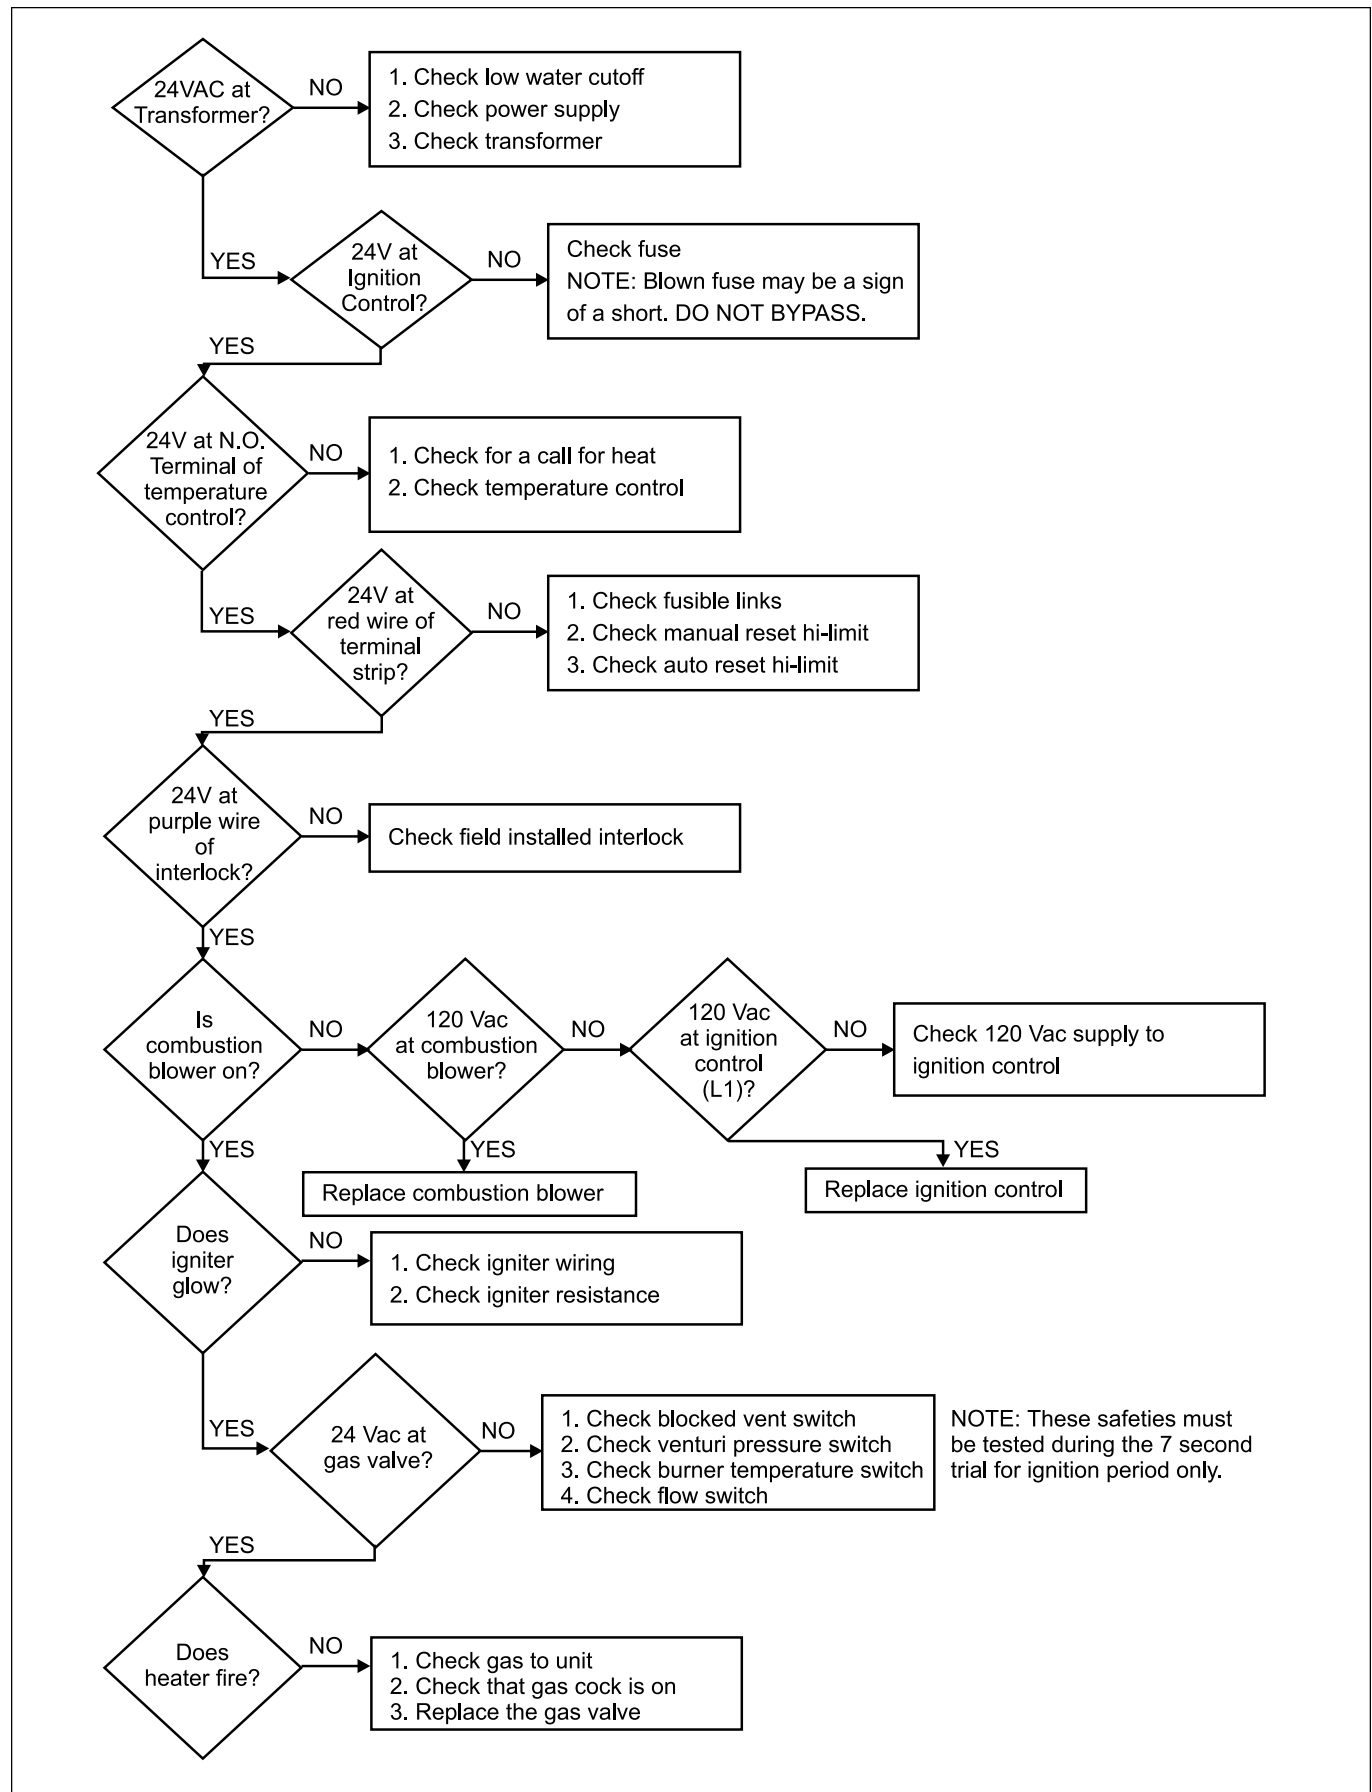

Figure 20. Troubleshooting Chart.
Some electrical components are wired in parallel, so it is necessary to troubleshoot in the order that they appear on the wiring diagram or the troubleshooting flow chart (see Figure 20).
4. Use the troubleshooting flow chart (see Figure 20) to determine what components and wiring should be tested first.